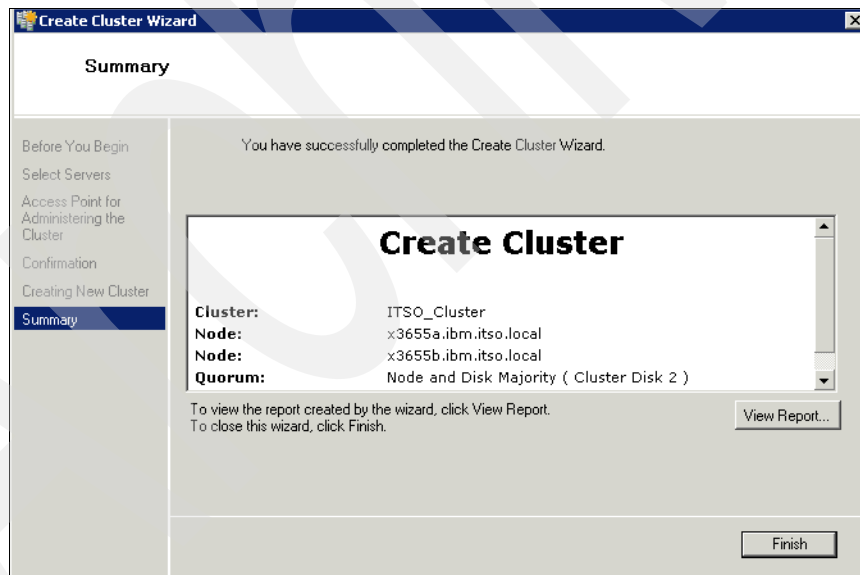

Figure 5-90 Cluster Create wizard - summary page
- To view a report of the tasks the wizard performed, click **View Report** or **Finish** (Figure 5-90).